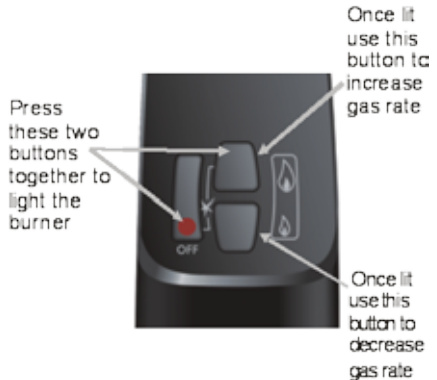

Figure 7
2. Simultaneously press and hold the  (red circle) and  (large flame) buttons until a short acoustic signal confirms the start sequence has begun, then release the buttons (see **Figure 7**).
5. To adjust the gas rate to desired setting press the  (large flame) to increase the flame height or  (small flame) to decrease the flame height on the handset (see **Figure 7**).